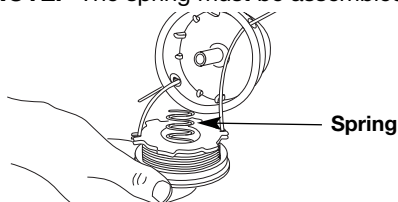

Fig. 20
13. Insert the ends of the line through the eyelets in the outer spool and place inner reel with spring inside the outer spool (Fig. 20). Push the inner reel and outer spool together. While holding the inner reel and outer spool, grasp the ends and pull firmly to release the line from the holding slots in the reel.
5. Insert the ends of the line through the eyelets in the outer spool (Fig. 20).